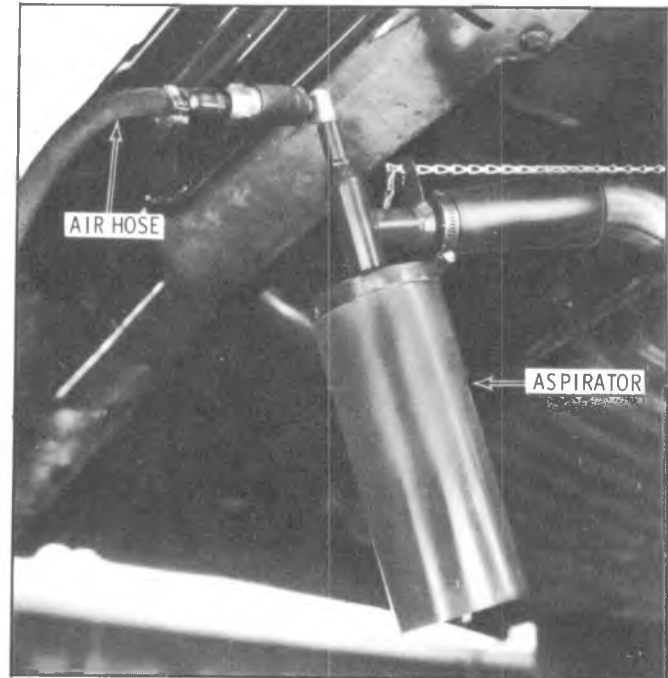

Fig. 6F-4--Installing Aspirator
2. Install fill tube extension to the fixture J-25077-1 (Fig. 6F-8). Use adapter J-25077-6 if converter was built with pressed plug.